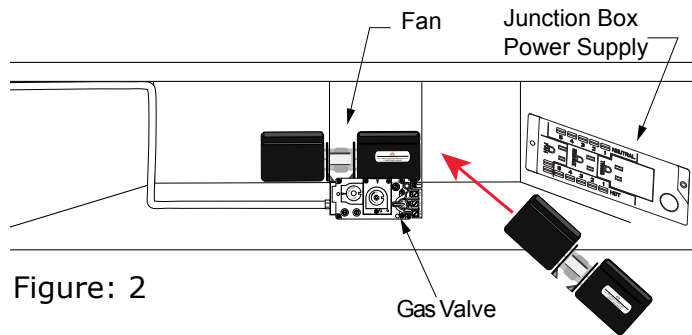

Figure: 2
Step 3: Under Firebox, visualize a pathway for the blower to reach the back. (Figures: 2 , 3 & 8)
Hold fan assembly so the air exit ports face up. Slide blower assembly through bottom vent space; as the blower reaches the back - center blower parallel against the back wall, the magnets will hold fan to floor pan. Pull it slightly away from back wall to insure it does not touch. (Figures: 2, 3 & 8)